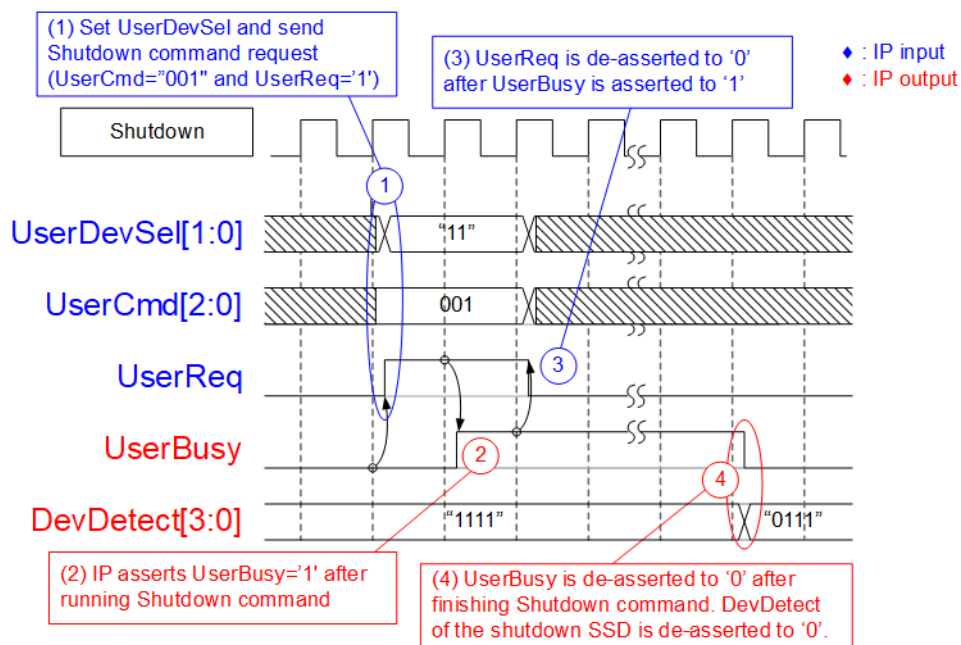

Figure 11: Shutdown command timing diagram
- 4) UserBusy is de-asserted to '0' when the selected SSD is completely shut down. DevDetect of selected SSD is de-asserted to '0'. The example of shutdown command is shown in Figure 11. DevDetect[0] changes to '0' after SSD#0 (UserDevSel="00") completes Shutdown operation. After that, user cannot send the command request to SSD#0.